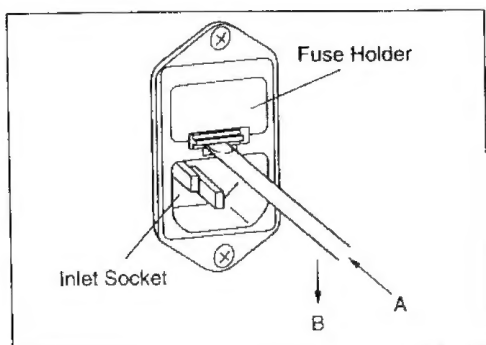

Fig. 65
1. Place the screw driver into the notch on the lower side of the fuse holder immediately above the power inlet socket (direction A as shown in Fig. 65).
2. Move the screw driver in a slightly downward direction (direction B as shown in Fig. 65), the fuse holder will pop out slightly.